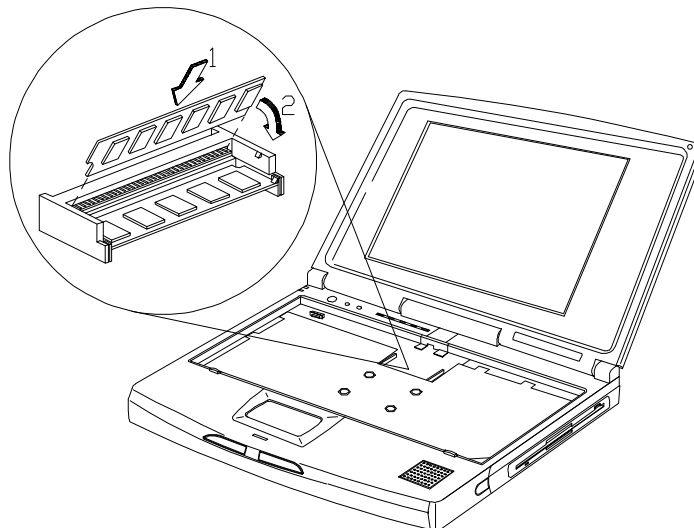

Figure 3-1 Installing Memory
The memory slots are accessible directly under the keyboard. Simply unlatch and lift the keyboard to expose the memory slots. Then (1) insert the DIMM into the slot and (2) press down to secure the DIMM. Do the same for the second slot. Refer to Figure 3-1.